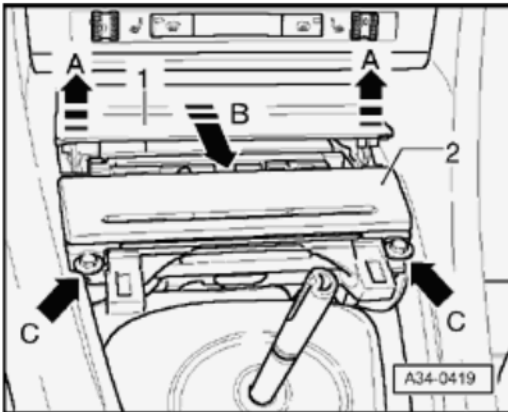

Fig. 78: Lifting Cover And Pulling Out And Removing Bolts And Pulling Ashtray From Center Console
- Opening catch. Refer to **Fig. 78**